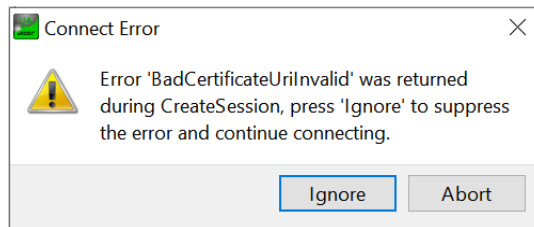

Figure 19 BadCertificateUriInvalid error message
- 3.3.1. If using Security tokens to protect your communications you may encounter the following error “BadCertificateUriInvalid”. This can be related to certain clients being unable to read special characters like spaces in the naming of the certificate. Clients usually provide the option to select “Ignore” or change a setting to allow for this, see Figure 19.